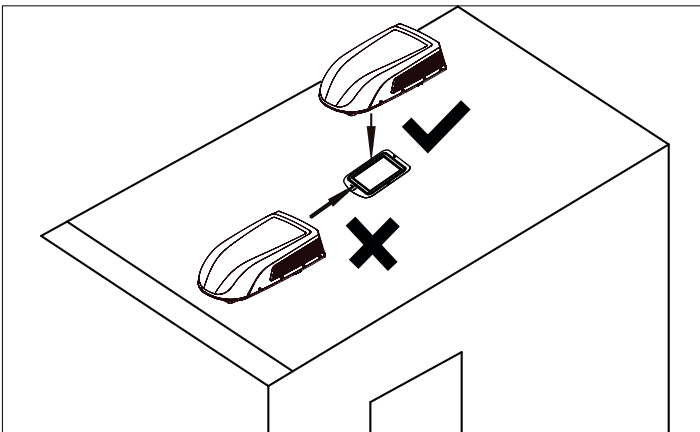

Figure 4-2
2) Place the unit on the mounting plate in the prepared roof cutout so that the sealing tape of the external unit is aligned with the groove on the surface of the mounting plate. Do not pull on the external unit or the gasket may come off (see Figure 4-2).